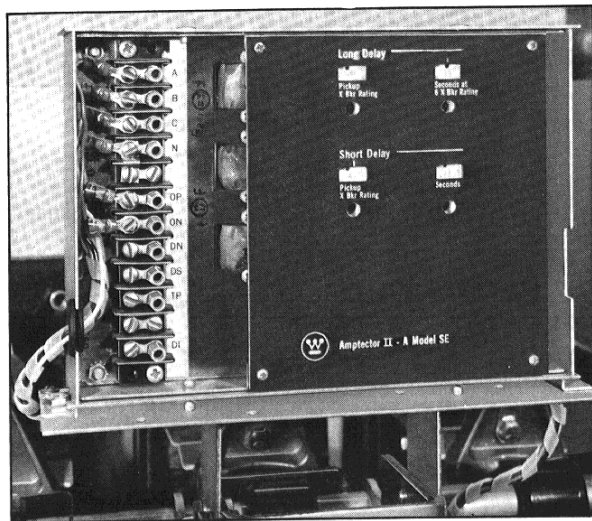

Fig. 32 Amptector Mounted on Bracket DB-75/100
6. Mount Amptector on the steel plate with .25-20 x .50 bolts, nuts and washers, Fig. 32.